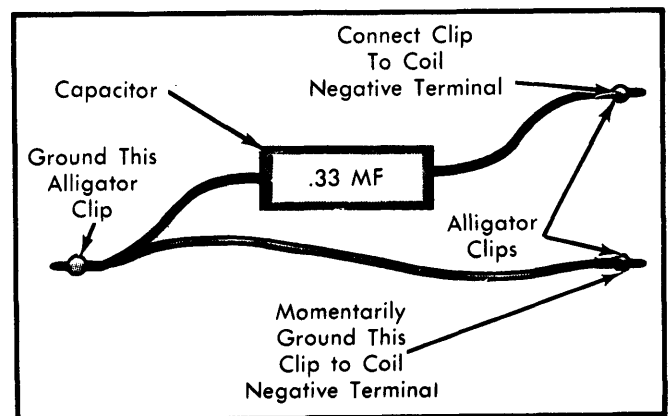

Fig. 3 Special Jumper Wire Assembly
5) If battery voltage was indicated in step 4), hold coil secondary wire about $\frac{3}{8}$ " from a good ground. See Fig. 3. Using a special jumper wire assembly, momentarily touch ignition coil negative terminal to ground. A spark should result.